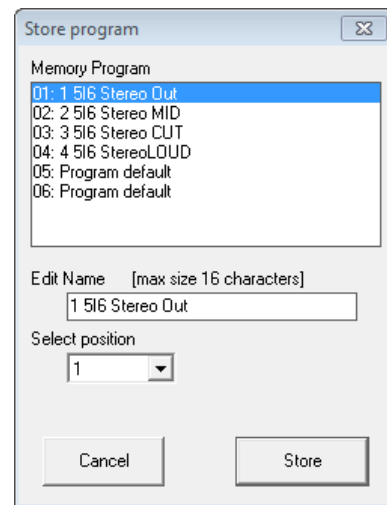

Fig. 34 Window "Store Program"
- 1) On the upper right of the window, click the button "Store". The dialog window "Store Program" is displayed (fig. 34).